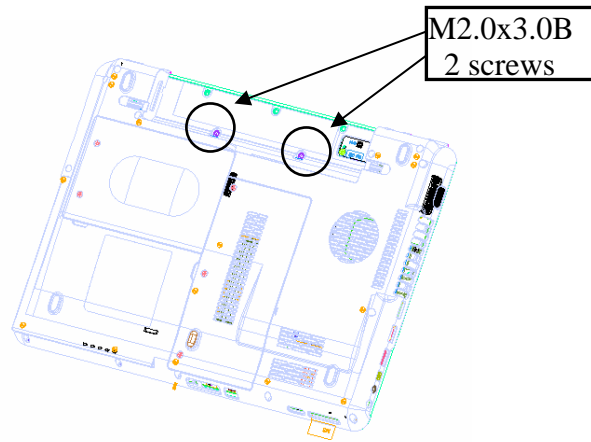

Figure 4-9 Remove screws for KB Holder
The following describes the procedure of removing the keyboard (See Figure 4-9 to 4-11).
3. Open the display and removing the **k/b holder** and **keyboard**. (please refer figure 4-9, figure 4-10, figure 4-11).